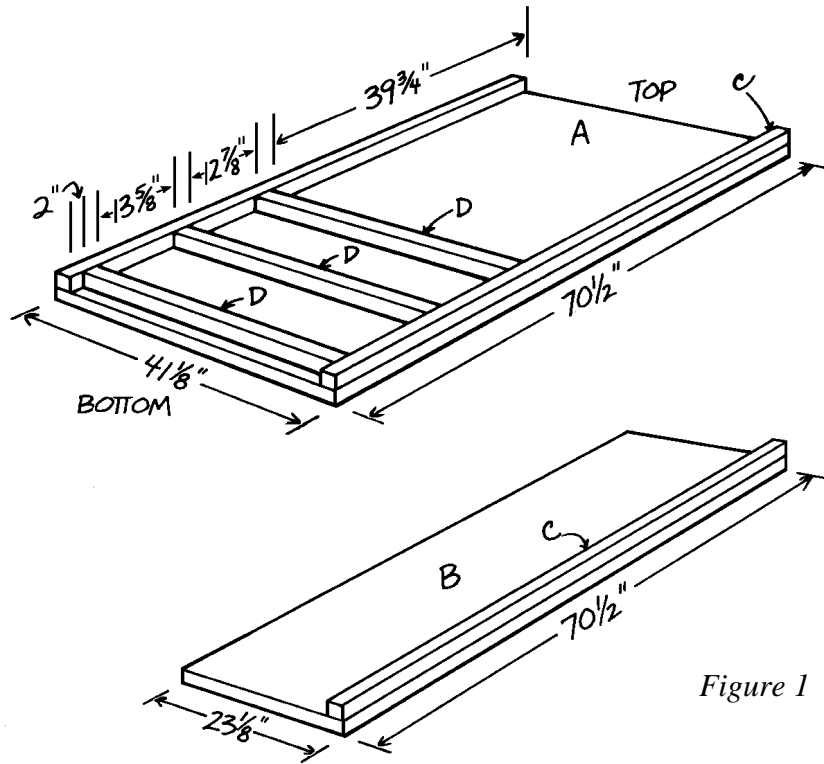

Figure 1
1. The basic supporting frame for the armoire is nothing more than a large box. Although it requires quite a bit of space to construct, the actual assembly is very straightforward. Start by cutting one 41-1/8" x 70-1/2" wide back (A) and one 23-1/8" x 70-1/2" narrow back (B) from the 3/4" thick plywood.
2. Cut eight 70-1/2"-long inner vertical supports (C) from 3/4" x 3/4" pine.
3. Using *Figure 1* as a guide, glue two inner vertical supports (C) to the wide back (A), positioning the supports flush with the long edges of the wide back (A). Use 3d finishing nails, spaced about 6" apart, to secure the supports in place.
4. Cut three 39-5/8"-long shelf supports (D) from 3/4" x 3/4" pine.
5. Glue one shelf support (D) to the wide back (A), between the two vertical supports (C) and 39-3/4" down from what will be the top of the finished armoire, as shown in *Figure 1*. Secure the shelf support with 3d finishing nails spaced about 6". It doesn't make any difference which end of the wide back (A) you choose as the top, but now is the time to decide.
6. Glue a second shelf support (D) to the wide back (A), 12-7/8" down from the first support, in the same manner that you attached the first one, as shown in *Figure 1*.
7. Nail and glue the remaining shelf support (D) 2" from the bottom edge of the wide back (A).
8. Glue and nail one inner vertical support (C) to the narrow back (B), flush with one long edge, as shown in *Figure 1*. Secure the support with 3d finishing nails spaced about 6" apart.